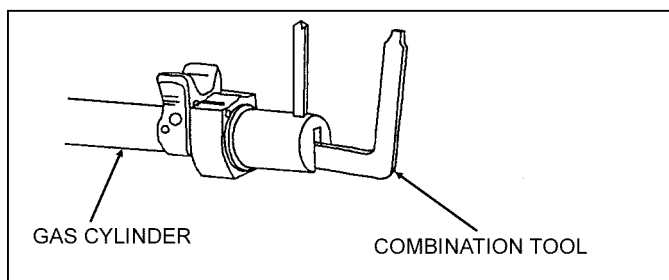

Figure 3-22. Cleaning tool for the gas cylinder.
- (5) Clean the gas cylinder with the special tool scraper-extraction combination tool.
- (a) Clean the front interior of the gas cylinder by carefully inserting the combination tool, with the handle upward. Be sure the tool is fully inserted and seated against the gas cylinder. Apply slight pressure to the handles and turn clockwise to remove carbon (Figure 3-22).